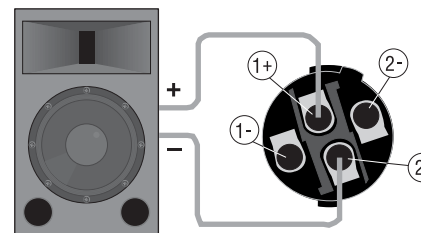

Figure 2.13
- 2) Wire the speaker only to the top Speakon connector as shown in Table 3 and Figure 2.13.